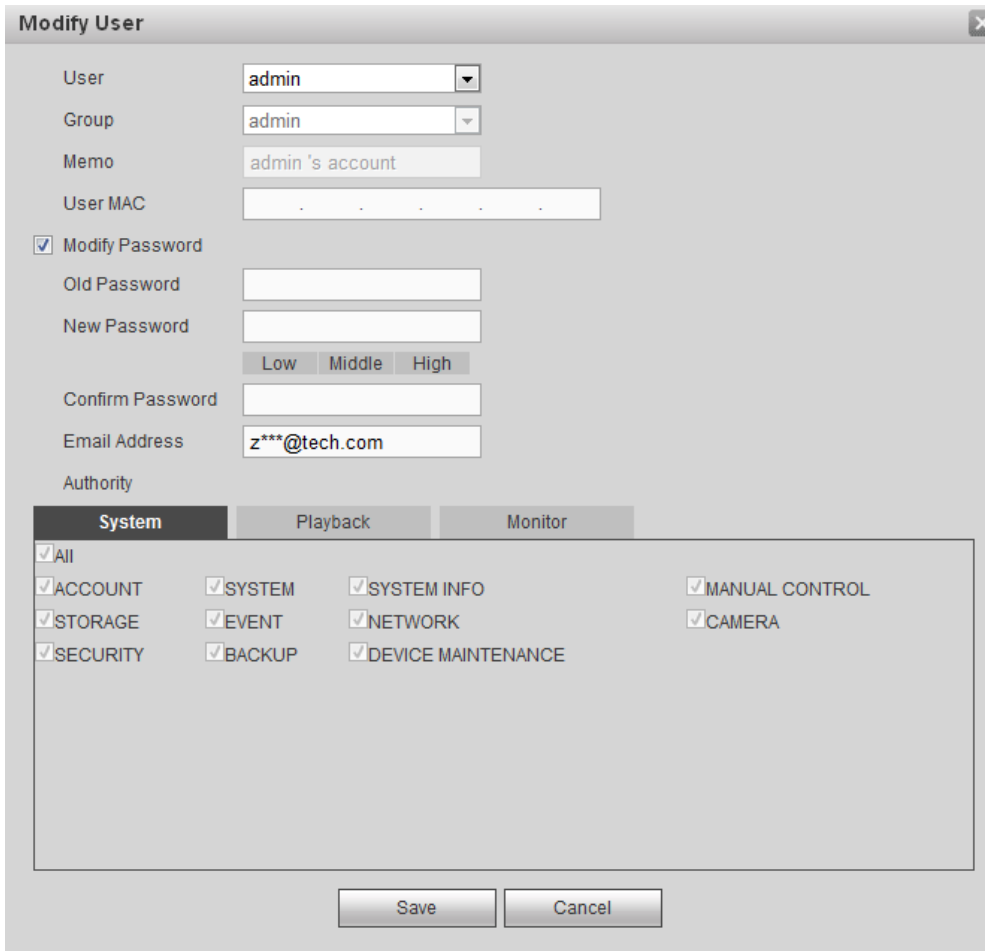

Figure 5-138
Step 1 In Modify user interface, click Modify password box. See Figure 5-138.